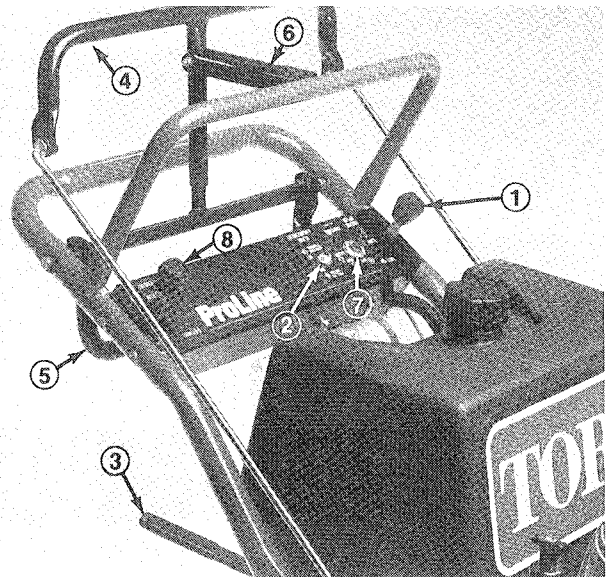

Figure 16
**Throttle Control (Fig. 16)** — The throttle control has two positions: FAST and SLOW.
**Choke Control (Fig. 16)** — The Choke Control has two positions: CHOKE and RUN.
**Deck Engagement Switch (Fig. 16)** — Toggle switch releases blade brake and engages electromagnetic clutch to drive deck pulleys.
**Gear Shift Lever (Fig. 16)** — Transmission has four forward speeds, neutral and reverse, and has an inline shift pattern. Do not shift while unit is moving, as transmission damage may occur.
**Upper Control Bar (Fig. 16)** — Shift to desired gear and push forward on control bar to engage forward traction operation and pull back to brake. Pull right side of control bar to turn right and left side to turn left.
**Lower Control Bar (Fig. 16)** — Shift transmission to reverse and pull rearward on lower control bar to engage rearward traction operation.
**Parking Brake Lever (Fig. 16)** — Pull back on upper control bar and swing brake lever up against the upper handle.
**Ignition Switch (Fig. 16)** — Switch is part of battery ignition system, and it has three positions: OFF, RUN and START. Key automatically returns to RUN posi-